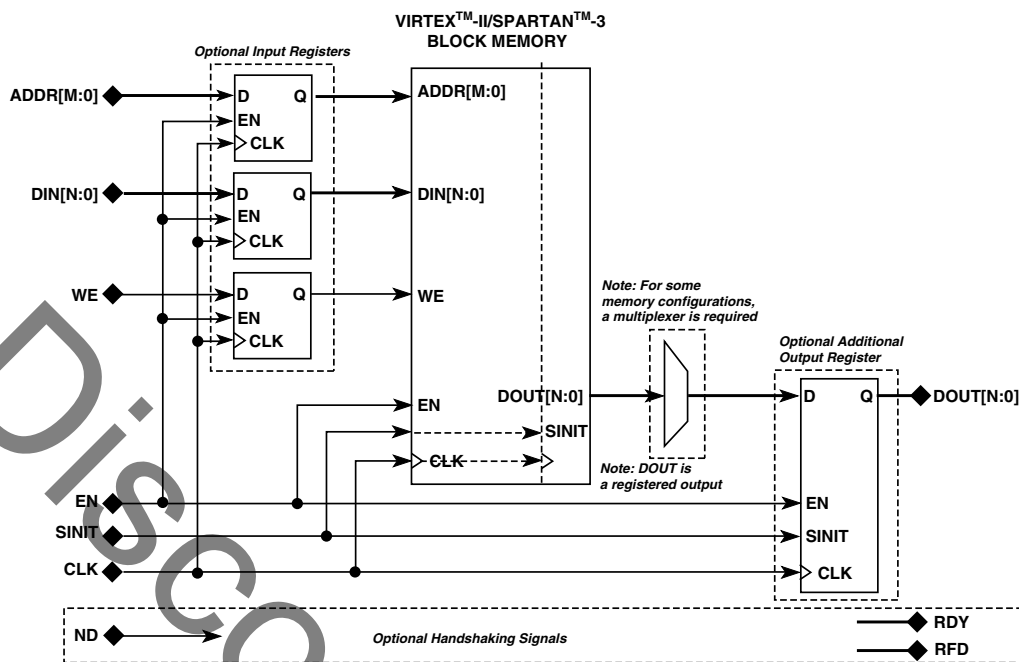

Figure 2: Single-Port Memory Block Diagram
- **Register Inputs:** Check this box to register ports DIN, ADDR, and WE prior to accessing block memory. See Figure 2.
- **Additional Output Pipe Stages:** Select "1" to enable an additional register on the output of the memory; select "0" to disable an additional register on the output of the memory. See Figure 2.